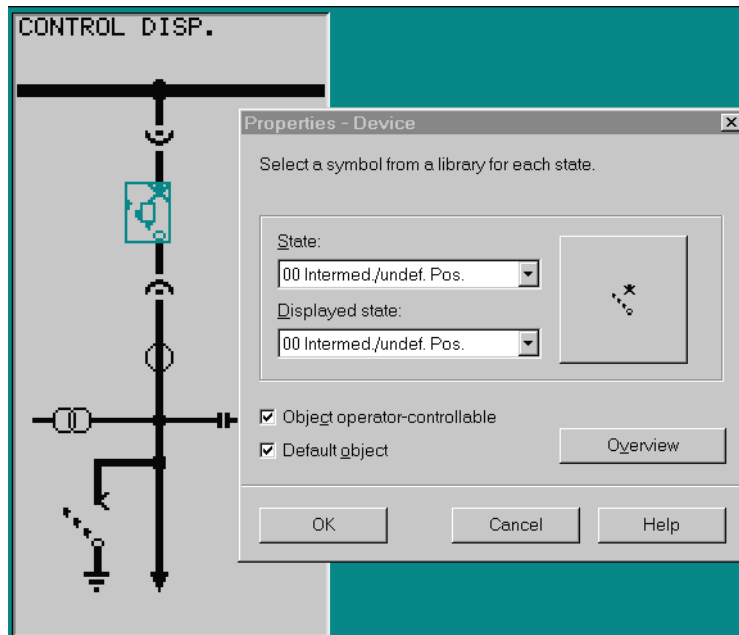

Figure 5-49 Making Equipment Operable and Selecting the First Equipment Switched
- Since the switching devices displayed should represent equipment that can be controlled by the relay, the user must make the connected equipment controllable. In the opened control diagram, the user should click on the equipment (see Figure 5-49). In the **Properties-Device** dialog window which appears, the user should select the option **Object operator-controllable**.